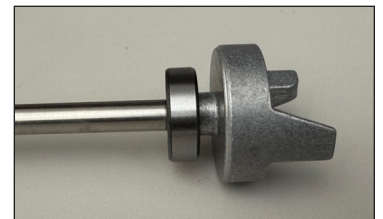

Figure 13 A & B
- 4. Reinstall** the half coupling, bearing and shaft (items 2, 3, & 4 indicated on the Exploded View Drawing) as an assembly into the head. If the bearing needs to be replaced see section 2 of the disassembly instructions on the prior page. *See figures 13 A & B.*